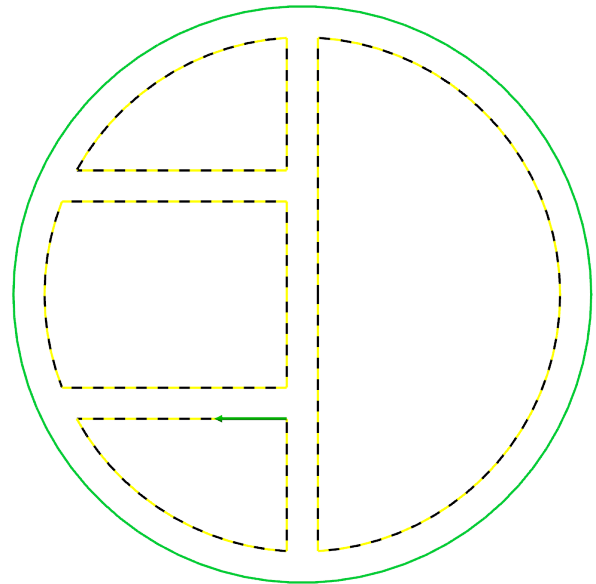

Fig. 22
Step 3. Chain geometry of **each pocket**, **Fig. 22**.